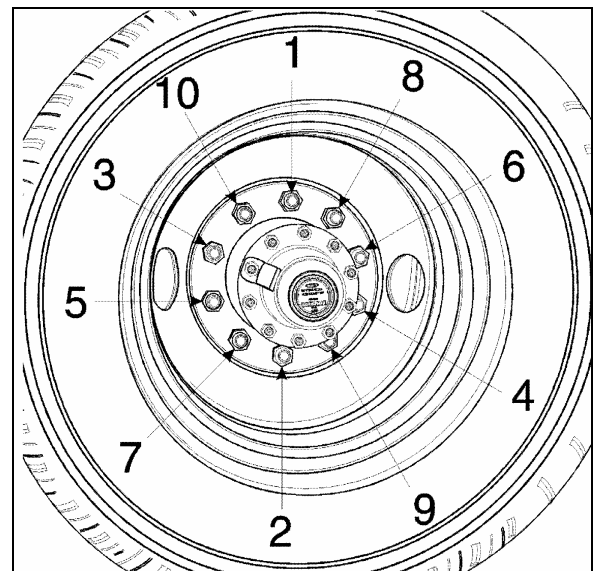
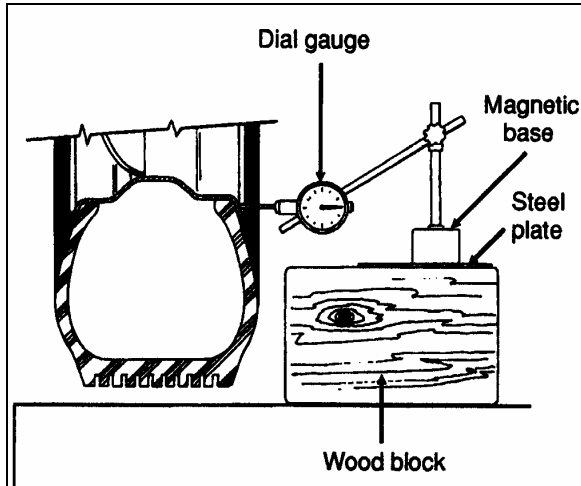

FIGURE 2: TIGHTENING SEQUENCE
FIGURE 3: DIAL GAUGE INSTALLATION 13008
| FIGURE 2: TIGHTENING SEQUENCE | 2 |
It is also important that wheel stud nuts be tightened alternately on opposite sides of the wheel. Refer to Figure 2 for the suggested tightening sequence.
Tighten stud nuts progressively as shown in Figure 2. The final tightening should be done with a torque wrench. Tighten stud nuts to 450 - 500 lbf-ft (610 - 680 Nm) for aluminum wheels.
2. Screw in the hex stud nuts (refer to Figure 2 for sequence) so that wheel will position itself concentrically with hub. This is important, otherwise wheel may be eccentric with hub and will not run straight. In this initial step, slightly tighten the nuts to correctly position the wheel;
3. Tighten stud nuts progressively as shown in Figure 2. The final tightening should be done with a torque wrench. Tighten stud nuts to 450 - 500 lbf-ft (610 - 680 Nm) for aluminum wheel.
2. Screw in the inner cap nuts (Fig. 3), so that wheel will position itself concentrically with hub. Refer to Figure 2 for sequence;
3. Tighten inner cap nuts progressively according to sequence shown in Figure 2. Final tightening should be done with a torque wrench. Tighten inner cap nuts to 450 - 500 lbf-ft (610 - 680 Nm) for aluminum wheel.
Repeat for each of the 10 "hex stud nut - inner cap nut assemblies" according to the tightening sequence in Figure 2.
2. Check wheel lateral runout. Install a dial gauge as shown in Figure 3, then rotate the wheel by hand one full turn. As the wheel turns, note any variation on the dial gauge;